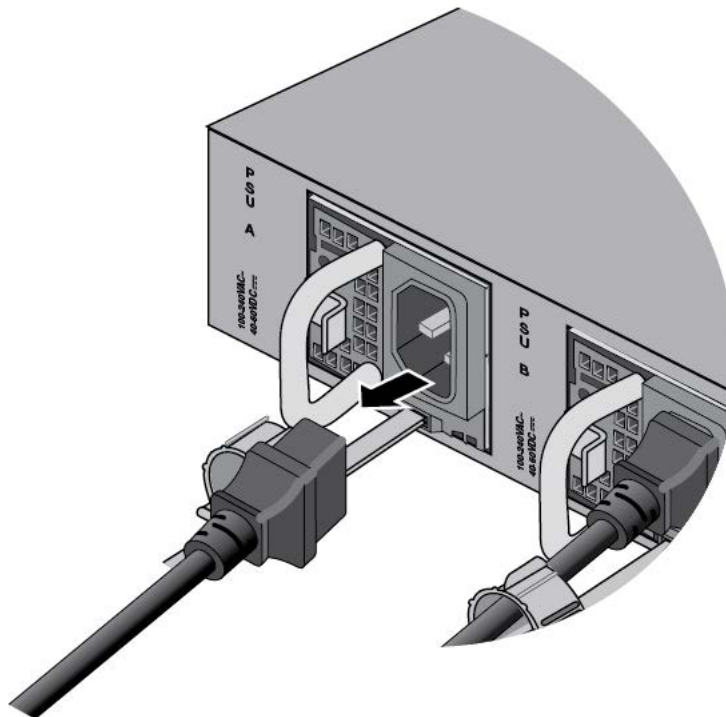

Figure 148. Disconnecting the Power Cord from the Power Supply
3. Disconnect the power cord from the power supply. Refer to Figure 148.